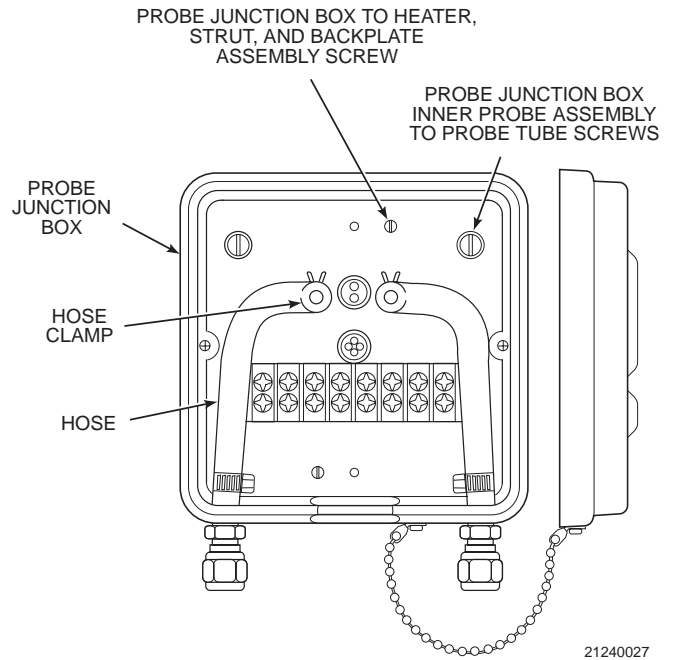

Figure 3-4. Probe Junction Box Mechanical Connections
- a. Disconnect and lock out power to electronics. Using heat resistant gloves and clothing, remove probe junction box cover. Squeezing tabs on hose clamps, remove hoses from probe junction box, Figure 3-4. Remove four screws in corners of probe junction box. Pull probe junction box and inner probe assembly free from probe tube. Set on bench and allow to cool to room temperature.
- c. Remove two screws, Figure 3-4, lockwashers, and flat washers that connect probe junction box to inner probe assembly. Pull heater, V-strut and backplate assembly away from probe junction box. Inspect all O-rings and insulating gasket; replace if worn or damaged.
- a. Disconnect and lock out power to electronics. Using heat resistant gloves and clothing, remove probe cover. Squeezing tabs on hose clamps and remove hoses from probe junction box, Figure 3-4. Remove four screws and lockwashers (7, 10, Figure 3-7) that hold probe junction box and inner probe assembly to probe tube. Pull probe junction box and inner probe assembly free from probe tube. Set on bench and allow to cool to room temperature.
1. Disconnect and lock out power to digital electronics. Using heat resistant gloves and clothing, remove probe cover. Squeezing tabs on hose clamps, remove hoses from probe junction box (Figure 3-4).